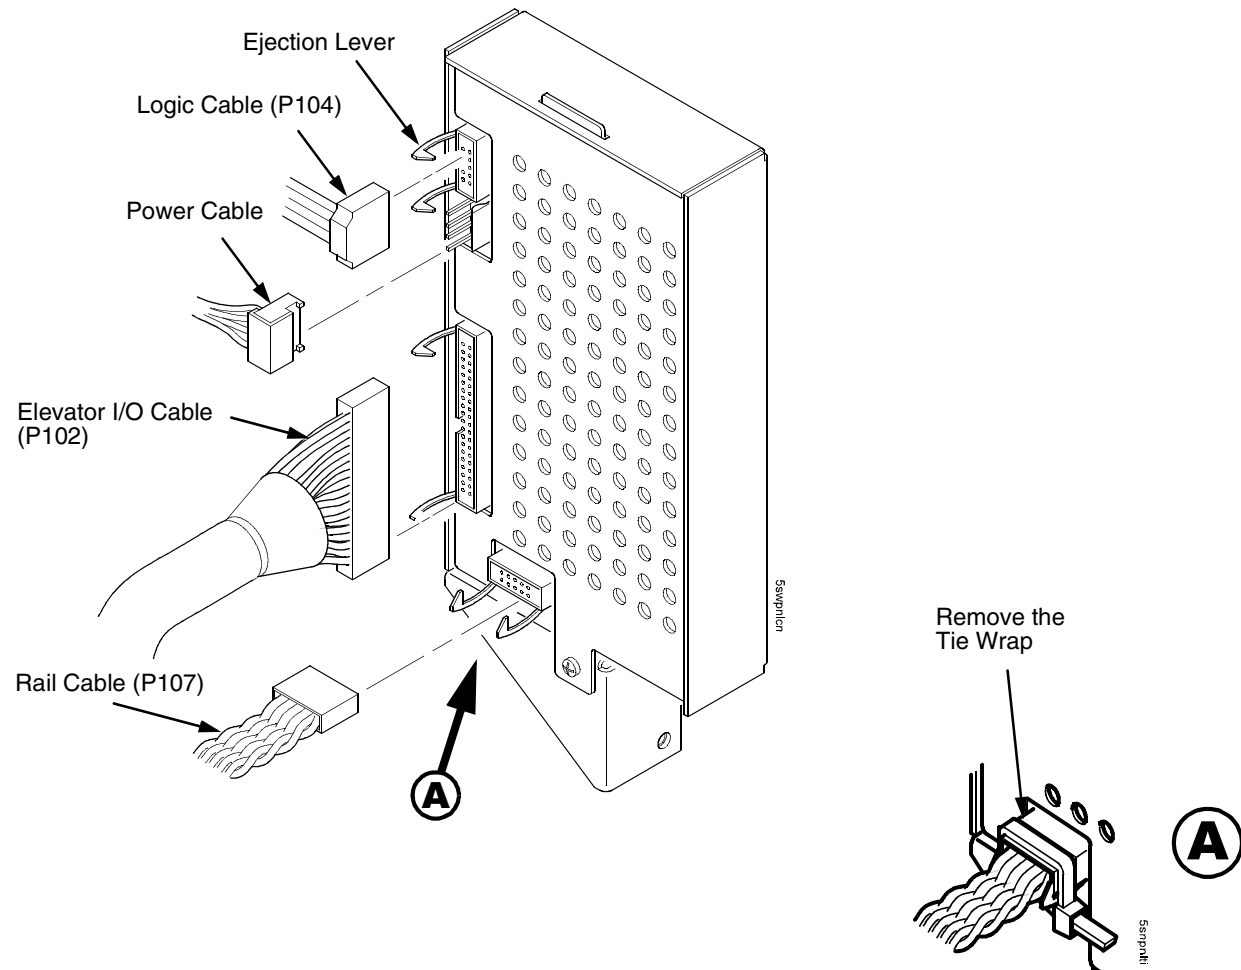

Figure 65. This figure shows how to remove the cables from the rear of the stacker operator panel.
7. Remove four cables from the stacker operator panel, and remove the stacker operator panel. (Figure 65.)